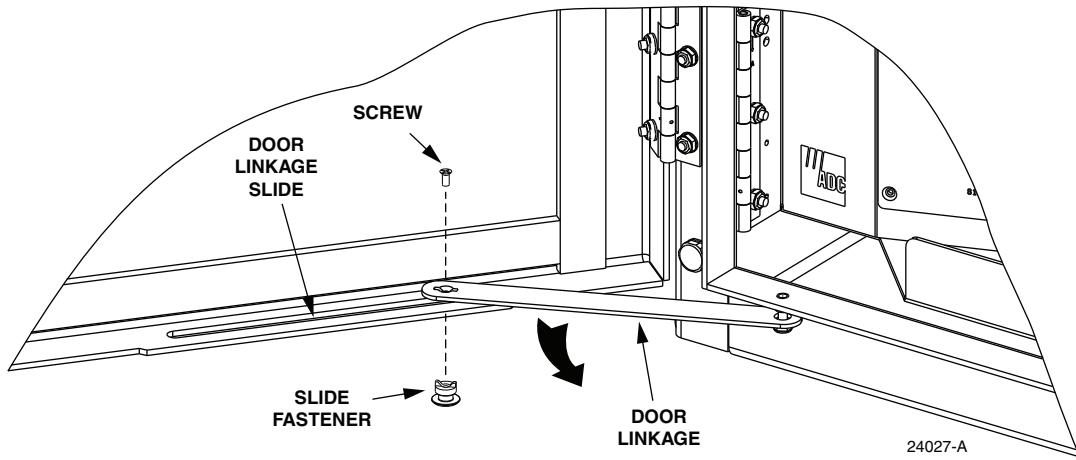

Figure 63. Door Bracket Slide Removal
2. Use a Phillips screwdriver to remove the screw and slide fastener that secure the door linkage to the door as shown in Figure 63. Save the screws and slide fastener for reuse.